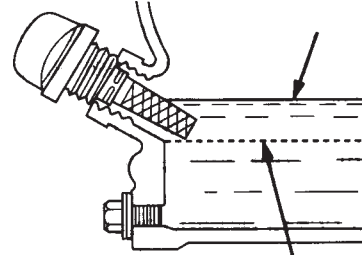

Figure 11. Engine Oil Dipstick (Oil Level)
4. If the oil level is low (Figure 11), fill to the edge of the oil filler hole with the recommended oil type (Table 3). Maximum oil capacity is 400 cc.